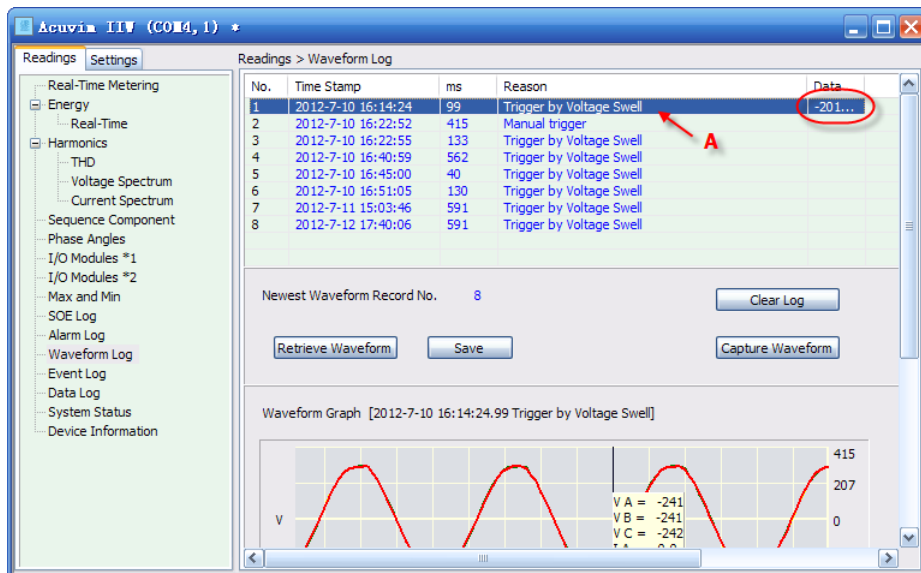

Figure 5.7.7. Waveform Log (2)
- 2) An item whose data field is not empty may be selected. Its waveform will be displayed as shown in Figure 5.7.7. Section A means to click an item with data.